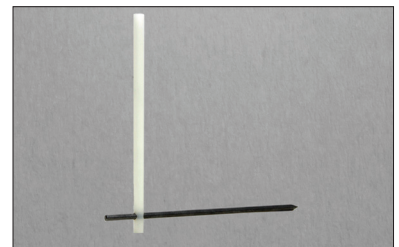

Figure 2
- Carefully push the flat end of the alignment rod through the hole in the alignment tube (**Figure 2**).